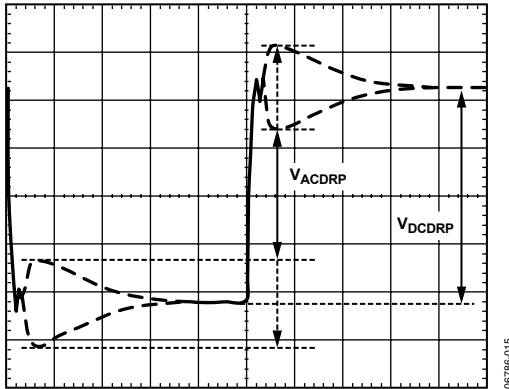

Figure 17. AC Load Line Waveform
- Measure the output waveform (use dc offset on scope to see the waveform). Try to use a vertical scale of 100 mV/div or finer. This waveform should look similar to Figure 17.
- Use the horizontal cursors to measure  $V_{ACDRP}$  and  $V_{DCDRP}$ , as shown in Figure 17. Do not measure the undershoot or overshoot that happens immediately after this step.
- $$C_{CS(NEW)} = C_{CS(OLD)} \times \frac{V_{ACDRP}}{V_{DCDRP}} \quad (49)$$